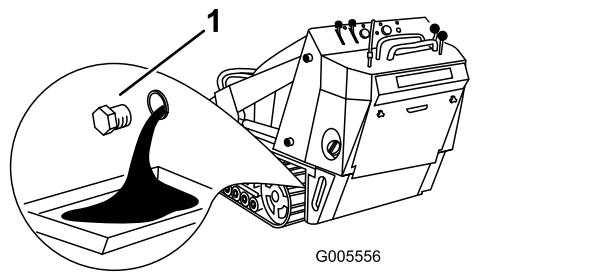

Figure 37
- Remove the drain plug (Figure 37).